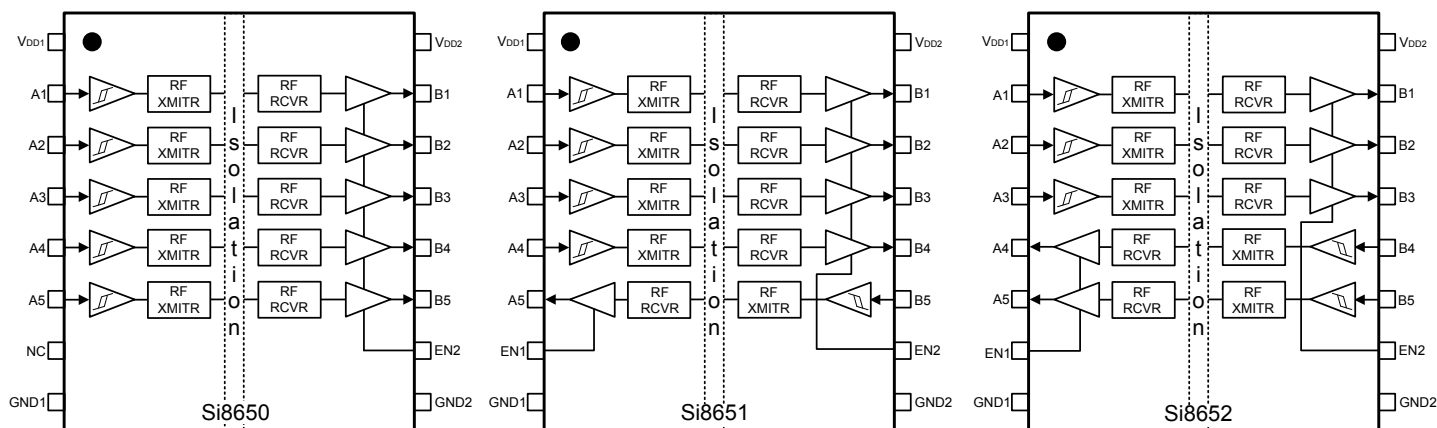

Figure 5.4. Si865x Pin Descriptions
- Maximum value allowed in the event of a failure; also see the thermal derating curve in Figure 4.4 Figure 5.4 on page 28, Figure 4.5 Figure 5.5 on page 28 and Figure 4.6 Figure 5.6 on page 29.